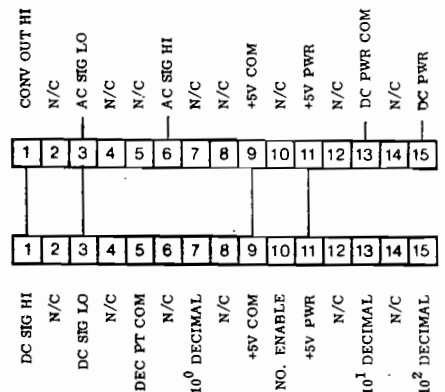

Figure 3. Connector Diagram for RM-350/AC/XX VDC
3. WIRING. Figure 3 provides wiring information for the connectors. Connect contacts 1, 3, 9 and 11 of the upper connector to the corresponding contacts on the lower connector. Connect AC signal HI to contact 6 of the upper connector; a shielded lead may be needed if the signal has a high source resistance. Connect AC signal LO to contact 3 of the upper connector. To display a decimal point, jumper between contact 5 and contact 7, 13 or 15 on the lower connector, depending upon which decimal point is to be displayed. See following decimal location/contact number information.